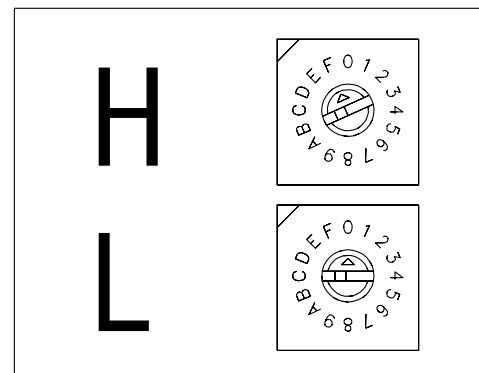

Figure 9: Address Switch Settings – Time Of Day Mode Enable
6. Rotate the L address switch to the “0” position (**Figure 9**). The “232” LED (DS1) will blink to show a change has been made:
7. To exit Diagnostics Mode, rotate the High address switch (H) to any value other than “F.”